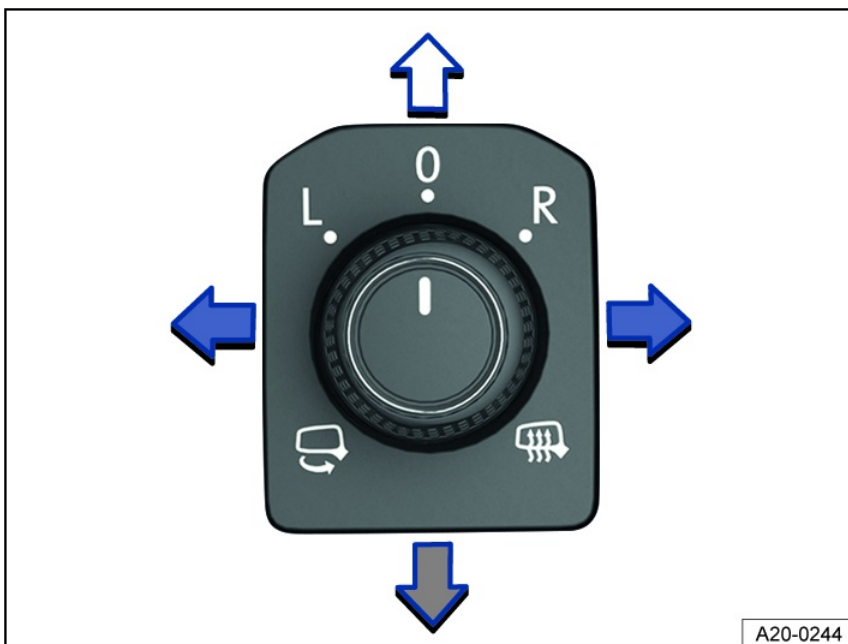

Fig. 88 In the driver door: knob for the outside mirrors.
2. Turn the knob in the driver door to the preferred symbol fig. 88.